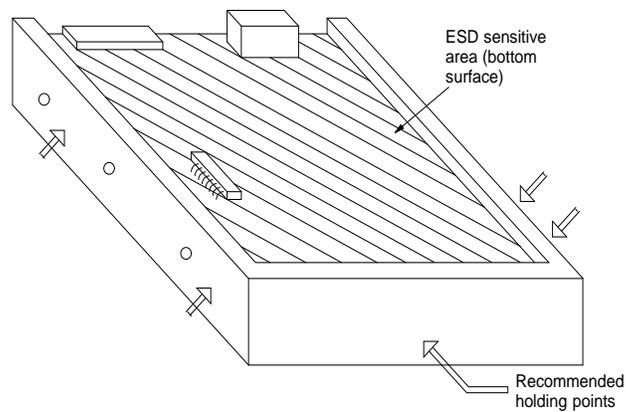

Figure 4-4. ESD-Sensitive Area of an Electronic Component
- Hold devices such as a hard disk, diskette drive, or streaming tape in the same manner as a large circuit card. The ESD-sensitive area of these components is located on the bottom surface (Figure 4-4).